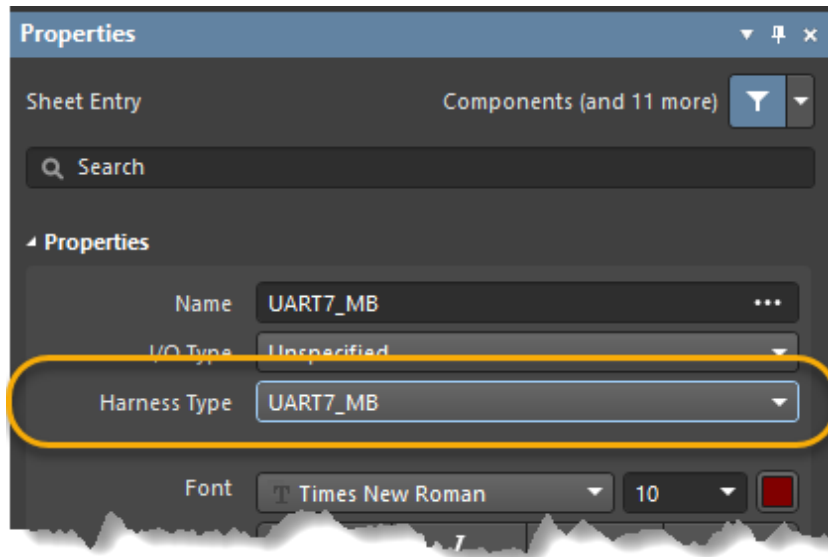

Figure 23. Sheet Entry Harness Type
58. From the *Properties* panel, select `UART7_MB` from the *Harness Type* drop-down, as shown in Figure 23.